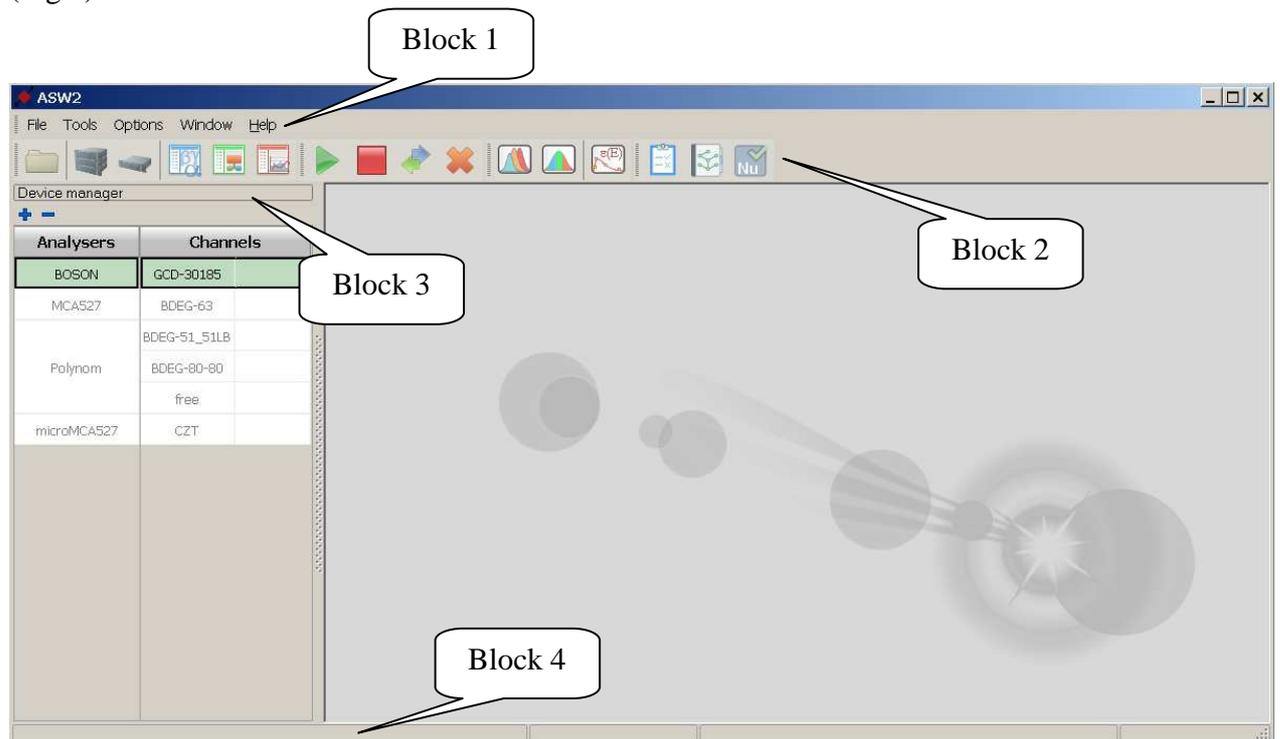

Figure 1. View of **ASW2** after its launch
When the program has started, the main window of the program will appear on the display (Fig.1).
The same can be done by clicking button  in the main window's toolbar (see Fig. 1, block 2).
As **Device manager** (Block 3, Fig.1) can be separated from the left edge of the main program window and can be closed, then **Device manager** can make this panel visible again.
ASW2 toolbar looks as shown on Figure 1 (block 2). The panel is divided into groups, which can be moved within the panel, or “separated” from the panel and moved to some other area of the main window of the program.
-  - **Device configuration**, displays a configuration window of the analyser (device), which is highlighted in the **Device manager** right now (Fig.1, block 3, **Analysers** column);
-  - **Tract configuration**, displays a configuration window of the spectrometric tract, which is highlighted in the **Device manager** right now (Fig.1, block 3, **Channels** column);
- **Measurement parameters**, displays a window with parameters of measurements for the spectrometric tract, which is highlighted in the **Device manager** right now (Fig.1, block 3, **Channels** column);
- **Calculation parameters**, displays a window with calculation (activity, etc.) parameters for the spectrometric tract, which is highlighted in the **Device manager** right now (Fig.1, block 3, **Channels** column);
- **Spectrum view parameters**, displays a window with parameters of the view of the spectrum (colours of elements of the histogram, background, axes, etc.) for the spectrometric tract, which is highlighted in the **Device manager** right now (Fig.1, block 3, **Channels** column).
- **Energy calibration**, displays energy calibration for the tract, which is highlighted in the **Device manager** right now (Fig.1, block 3, **Channels** column);
- **FWHM and shape calibration**, displays FWHM (full width at half maximum) and shape (left edge shape) calibration of the peak for the tract, which is highlighted in the **Device manager** (Fig.1, block 3, **Channels** column);
- **Start**, starts a measurement in the spectrometric tract, which is highlighted in the **Device manager** right now (Fig.1, block 3, **Channels** column). If the previous measurement has been interrupted manually, the user will be asked if the buffer should be cleaned prior to starting the next measurement;
- **Stop**, stops a measurement in the spectrometric tract, which is highlighted in the **Device manager** right now (Fig.1, block 3, **Channels** column);
- **Read**, forced reading of the spectrum from an analyser for the current spectrometric tract, which is highlighted in the **Device manager** right now (Fig.1, block 3, **Channels** column);
- **Clear**, clears spectrum buffer in the analyser for the current spectrometric tract, which is highlighted in the **Device manager** right now (Fig.1, block 3, **Channels** column).
The **Device Manager** panel (Fig.1, block 3) is intended for switching between analysers (devices) and tracts within a single analyser (if the analyser is multi-tract analyser). This solution allows simultaneously and operatively controlling any number of devices connected to the PC and spectrometric tracts, to start measurements and conduct processing.